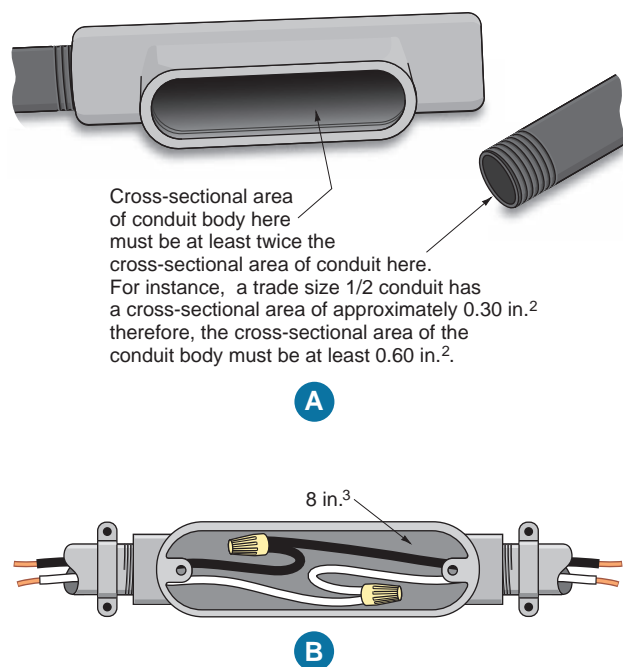

FIGURE 18-12 Requirements for conduit bodies. (Delmar/Cengage Learning)
- must have a cross-sectional area not less than twice the cross-sectional area of the largest conduit to which it is attached, as shown in Figure 18-12(A). This is a requirement only when the conduit body contains 6 AWG conductors or smaller.
- must not contain splices, taps, or devices unless the conduit body is marked with its in.³ capacity, as in Figure 18-12(B), and the conduit body must be supported “in a rigid and secure manner.”